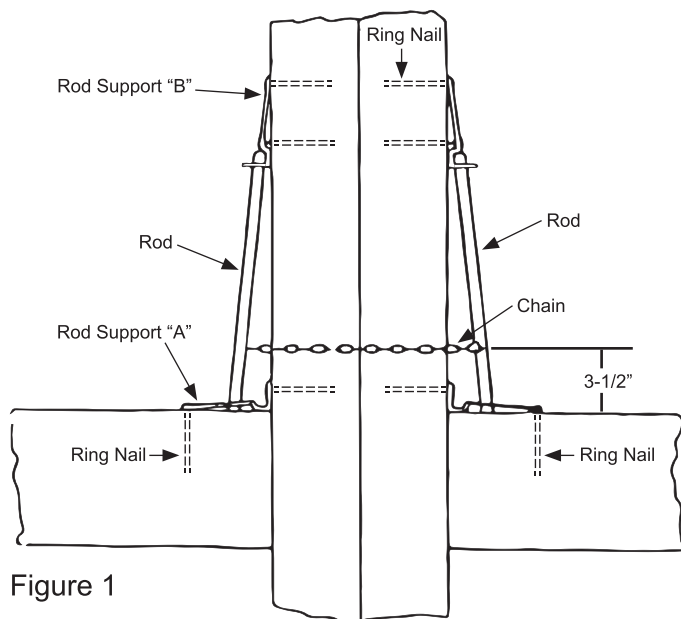

Figure 1
1. On the door to the left, select a horizontal door member that is at a convenient height and nail the Rod Support "A" (see Fig 1) in the corner as shown. Putting one nail in the long leg of the rod support and one nail in the short leg.
2. Insert rod into the large hole next to the near edge of the long leg of the Rod Support "A". Slip the large link on the end of the chain over the rod, and then insert the end of the rod into the large hole next to the near edge of the short leg of Rod Support "B". Let the Rod Support "B" slide down the rod as far as it will go and then nail to the door's vertical member using two nails as shown (Fig 1).